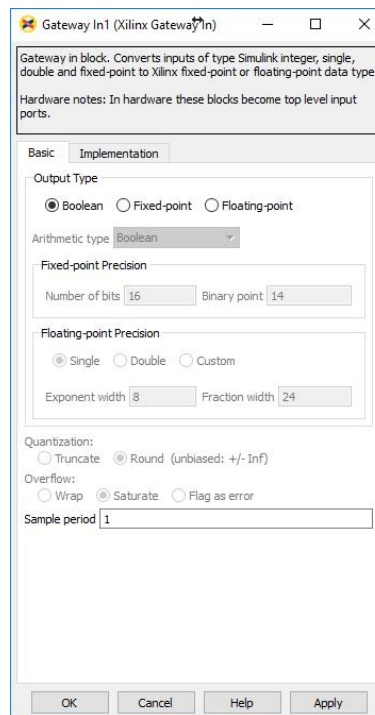

Fig. 10. Set Gateway In as boolean signal.
10. Double click on Gateway In block to bring up the configuration window and configure it as in Fig. 10.